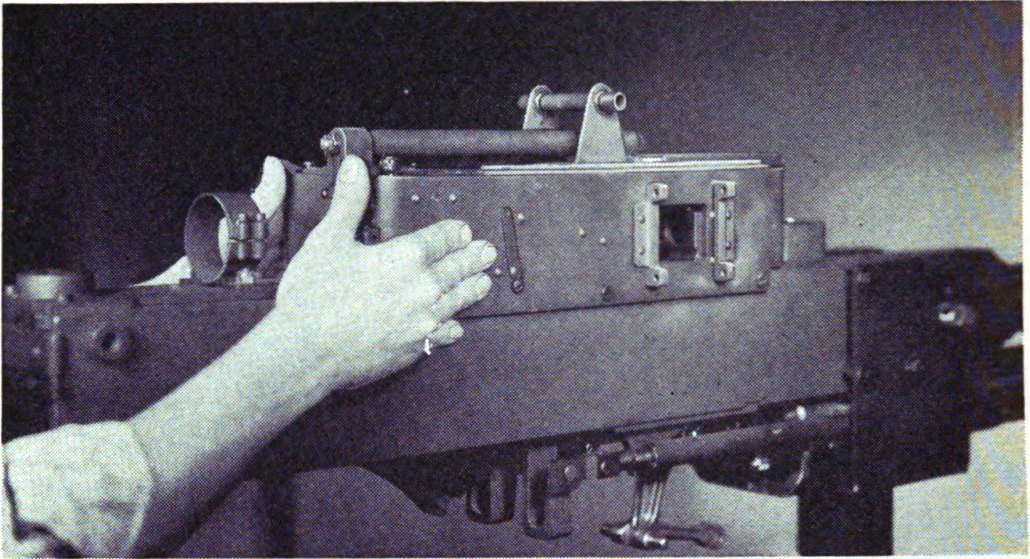

FIGURE 24.—Removing feed box cover.
(3) Holding the plungers in the connections retracted, attach the driving springs to the tube extension bracket.
19. Feed box parts.—*a. To disassemble.*—(1) Lift the feed box cover latches (fig. 24) and slide the cover forward and off.